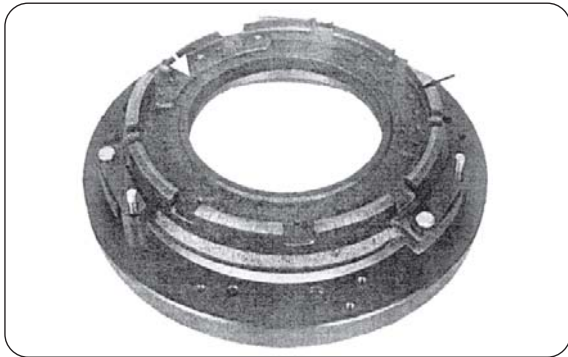

Fig. 12
10. Take pressure plate sub. assy. and keep it over the fixture as shown fig.12.